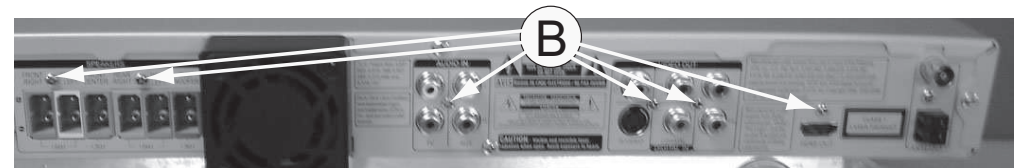

Figure 5
- 1) Loosen 6 screw "B" at the back panel as shown in figure 5.